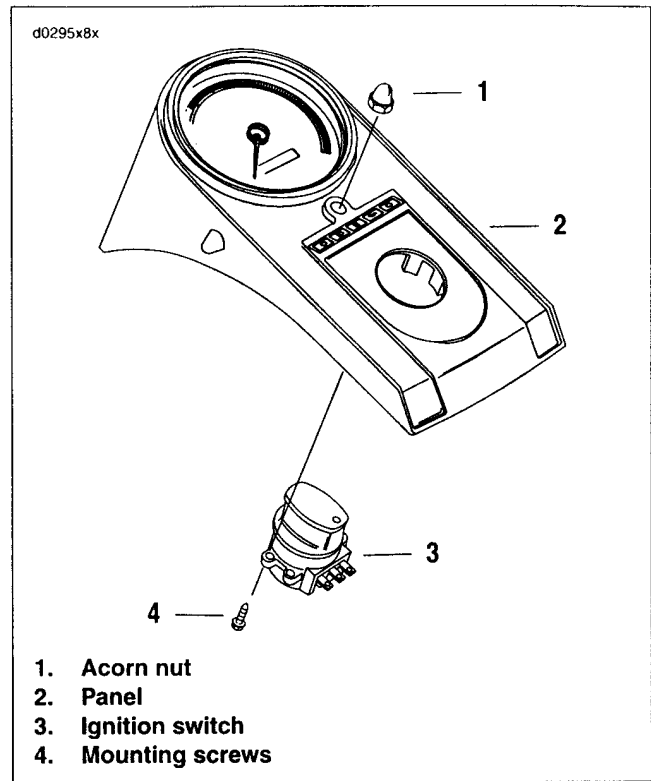

Figure 8-25. Ignition Switch: FXDWG
3. See Figure 8-25. Remove acorn nut (1) from instrument panel (2) and remove panel. Note position and color of the switch wire connectors. Disconnect wires.
4. Remove mounting screws (4). Replace switch.
6. Install instrument panel (2) with acorn nut (1). Tighten acorn nut to 80-100 in-lbs (9.03-11.29 Nm).